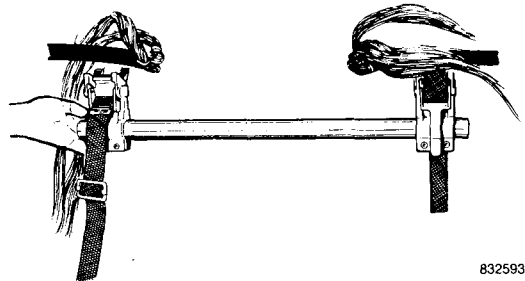

Fig. 12—Locating support tube on cable.
- a. Attach support tube to cable by placing assembly under cables and centering it on splice opening. Buckle hooks should be towards rear (clamping handle toward craftsman). See Figure 12.